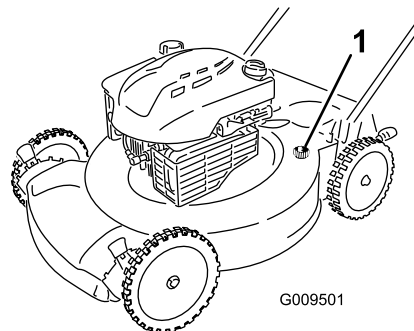

Figure 32
4. Attach a garden hose that is connected to a water supply to the washout port on the mower housing (Figure 32).